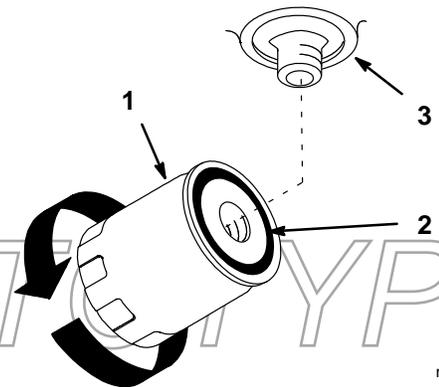

Figure 43
3. Apply a thin coat hydro fluid to the rubber gasket on the replacement filter (Fig. 43).
6. When fluid overflows filter turn the oil filter clockwise until the rubber gasket contacts the filter adapter, then tighten the filter an additional 1/2 turn (Fig. 43).